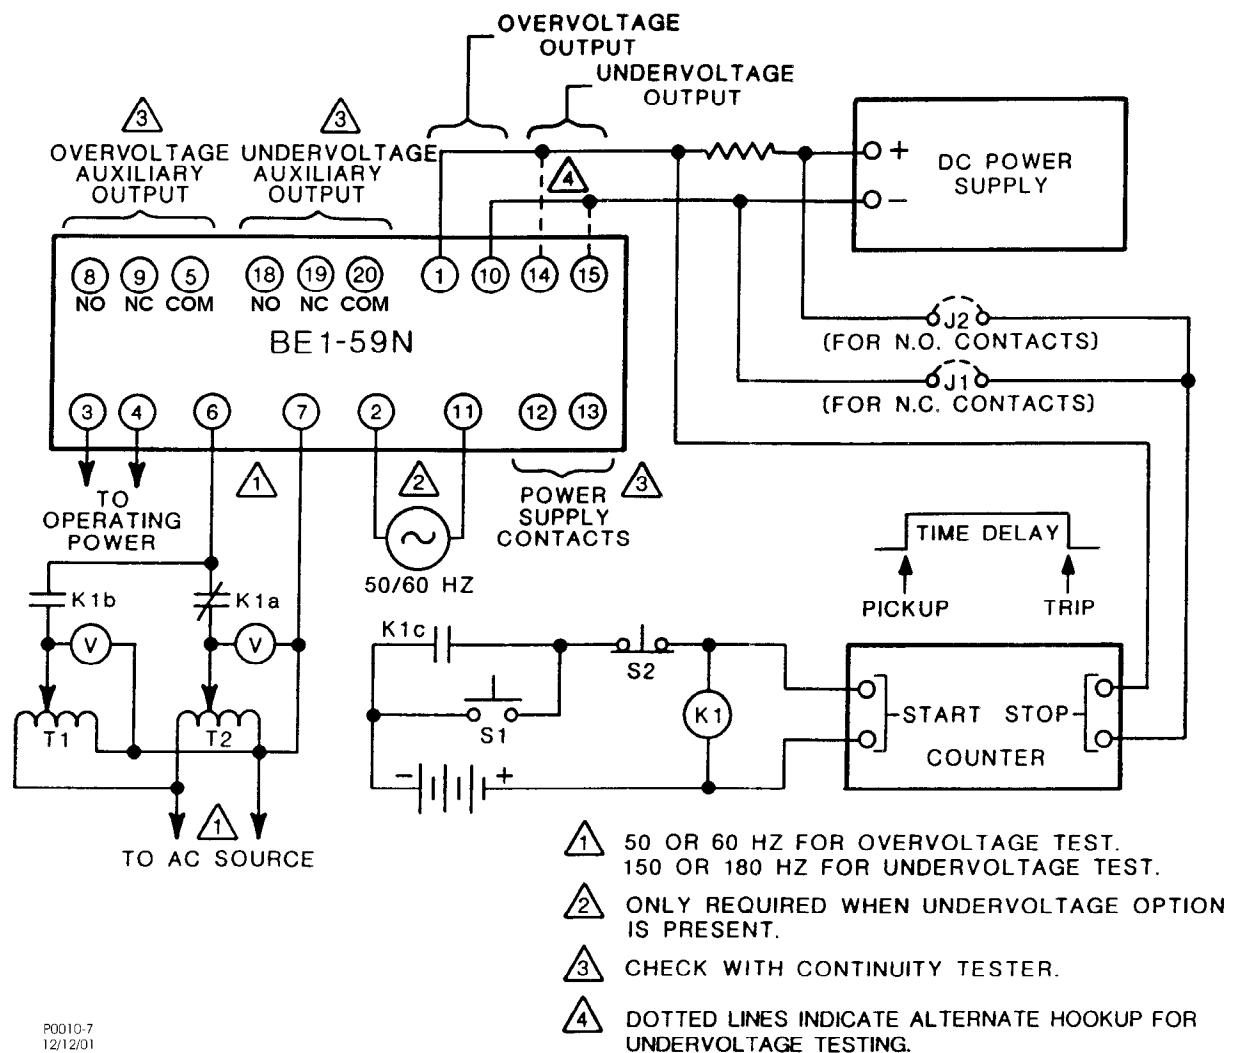

Figure 5-1. Typical Test Setup
Step 1. Perform test setup (Figure 5-1) and apply power to the relay. Verify that the POWER LED is ON, and that the power supply status contact is open.
- Step 10. Press and release S2 (of Figure 5-1) to assure that K1 is de-energized. Reset the timer. Press S1. The timer recorded by the counter should be within 5% or 25 milliseconds (whichever is greater) of the time given in Figure 1-3 for the particular ΔV of the test.
- Step 19. Connect a 150/180 Hz source to relay terminals 6 and 7 as shown in Figure 5-1. Note that this setup allows rapid switching from a voltage that is approximately twice pickup to a voltage that is ΔV lower than pickup. The switching also provides a means of precisely verifying the time between the voltage step change and the resulting output response.
- Step 23. Press and release S2 (of Figure 5-1) to assure that K1 is de-energized. Reset the timer. Press S1. The time recorded by the counter should be within 5% or 25 milliseconds (whichever is greater) of the time given in Figure 1-4.